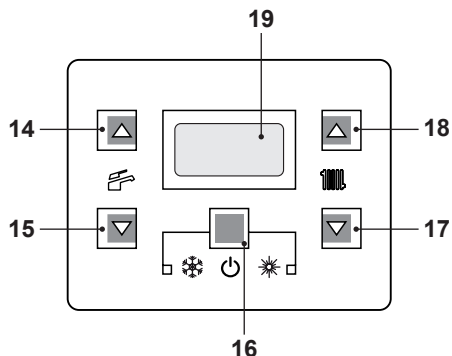

Fig. 2.7
- Press the key 16 for 2 seconds until the  symbol appears on the display Fig. 2.7.
The output temperature of C.H. water can be adjusted by pressing keys 17 (reduce) and 18 (increase) (Fig. 2.7) from a minimum of about 25°C to a maximum of about 85°C. Press one of the two keys once to display the "set" value. Press again to access the modification.
However, if the ambient temperature is not comfortable, the flow temperature of the heating system can be adjusted by $\pm 15^\circ\text{C}$ by pressing on keys 17 (reduce) and 18 (increase) (Fig. 2.7).